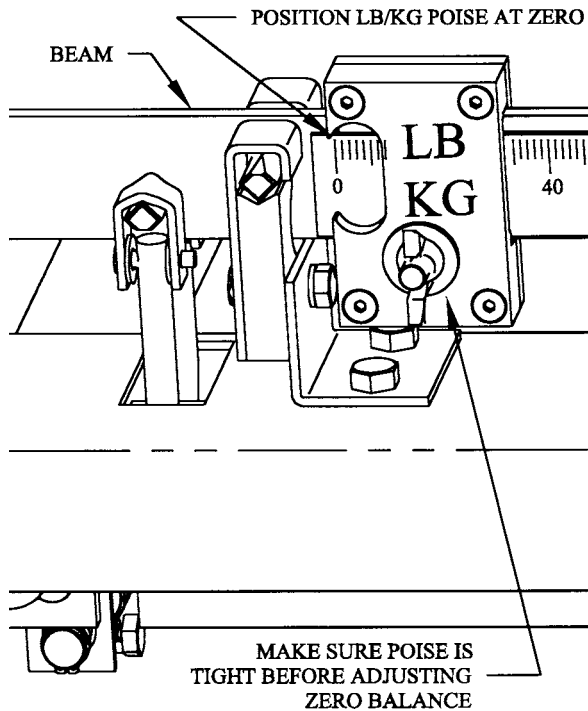

FIG. 21
STEP 16. Position the LB/KG poise to zero and tighten. See Fig. 21.